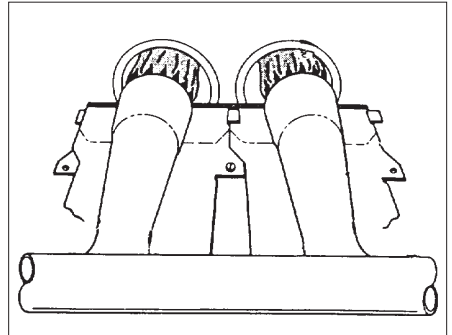

Figure 5. Burner Inspection
7. After the flame ignites, visually inspect the burner assembly to ensure that the flame is drawn directly into the center of the heat exchanger tube as shown in Figure 5. The end of the flame will be out of sight around